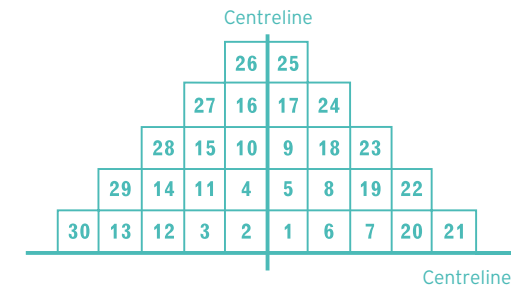

Figure 6.9 Pyramid layout
- ▶ Lay the first pyramid of tiles from the centrelines, using the sequence shown in Figure 6.9. Ensure a close bond is maintained at all times.
**NOTE** Construction of a pyramid should always start at the centre of the baseline, working in the same sequence as shown in Figure 6.9.